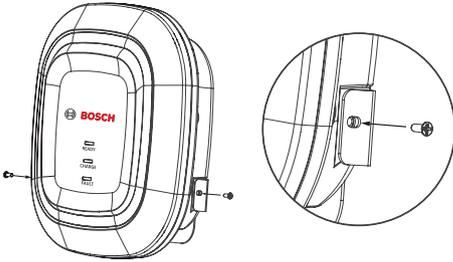

Fig. 8: Fastening EV 300 to wall-mount
- Fasten the EV 300 AC power unit to the wall-mount, using two M4 screws (see Fig. 8).